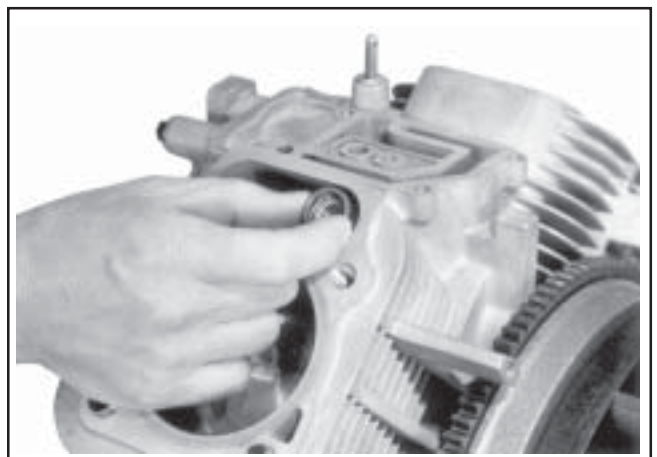

Figure 11-31. Installing Hydraulic Lifters.
3. Note the mark or tag identifying the hydraulic lifters as either intake or exhaust and cylinder 1 or cylinder 2. Install the hydraulic lifters into their appropriate locations in the crankcase. **Do not** use a magnet. See Figure 11-31.